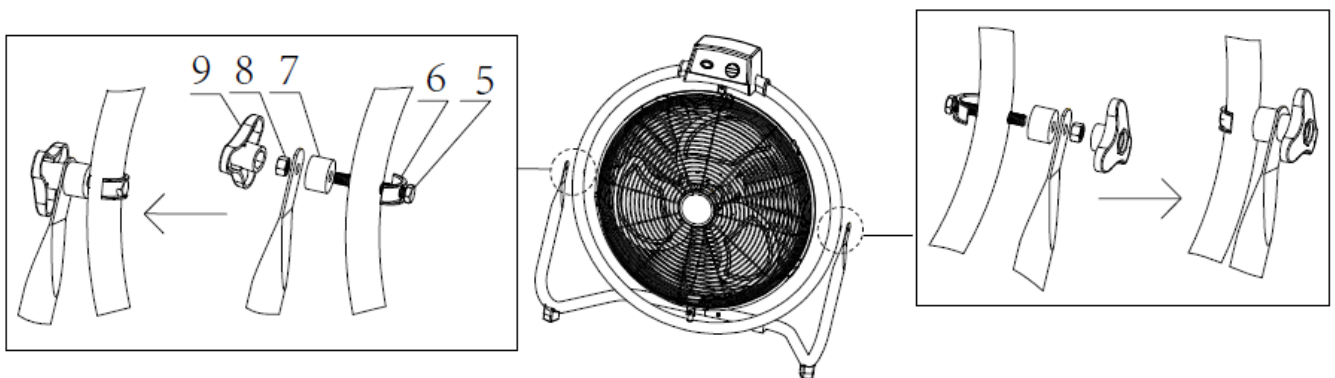

Fig. 2
Find the screw hole in the left side of the circular bracket. Fix the circular bracket and the left support bracket by long screw (5), U-type stator (6), article shockproof (7) and nut (8). You can twist the nut easily using the nut holder (9). Please follow the installation order in Fig.2.